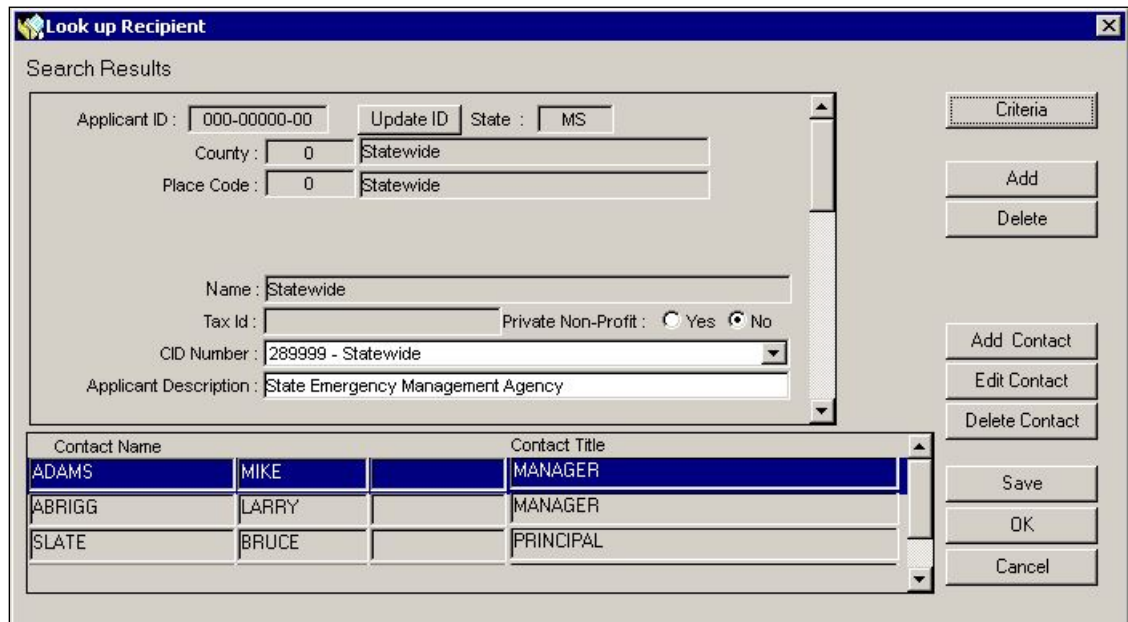

Figure 3-22: Recipient Search Results
2. Click the SEARCH button. Designated Recipient records are displayed (Figure 3-22).